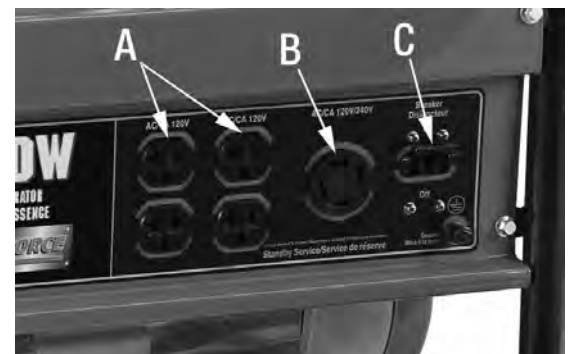

Figure 7
For normal 120V operation, plug your appliance or power bar into one of the duplex 120V receptacles (A) Fig.7.